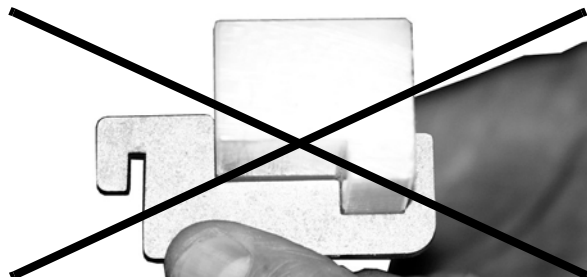
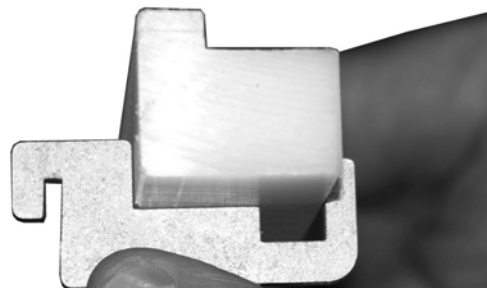

Figure 36
Figure 37
3. Verify that belt returns are mounted correctly by following graphic below (**Figure 36**) shows incorrect mounting and (**Figure 37**) shows correct mounting.